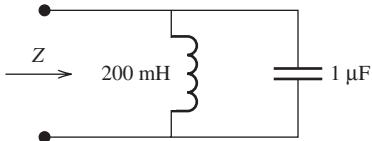

FIGURE P6.22 Circuit for Problem 6.22.
- 6.22 (B)** Find Z in Figure P6.22 for $\omega = 200$, $\omega = 800$, and $\omega = 1500$.